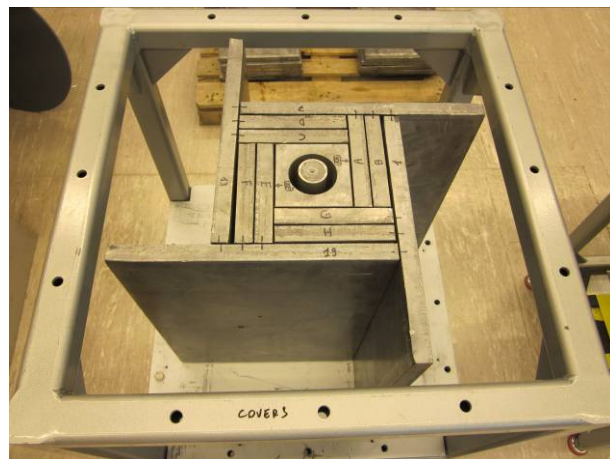

Figure 9: Placement of big plates 1, 7, 13 and 19.
3. Place big plates 1, 7, 13 and 19 as in Figure 9.